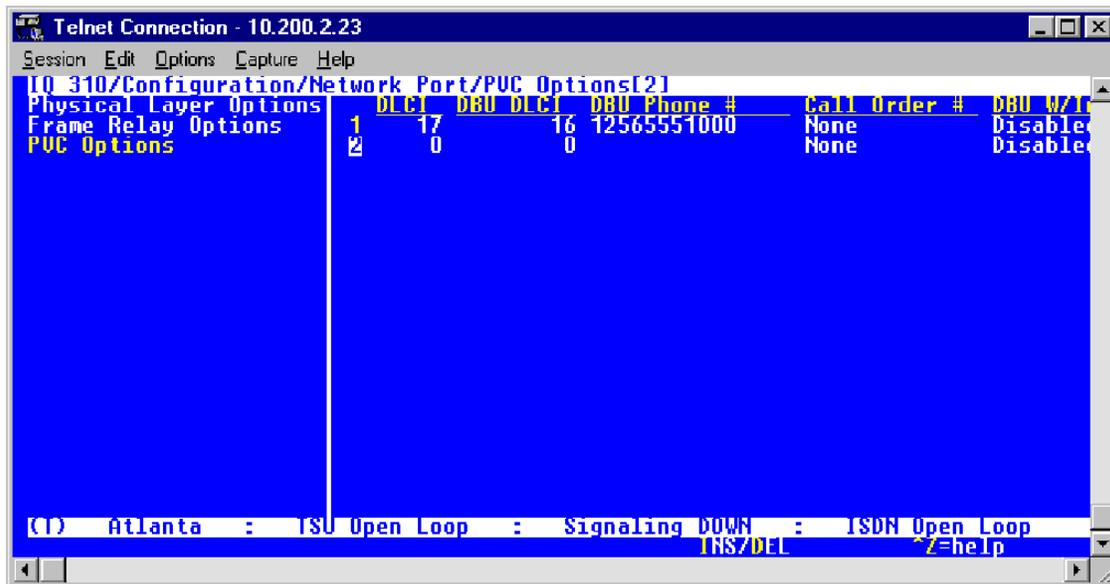

Figure 23. New Entry Screen
- Using the left arrow, place the cursor over the number 1 (indicating entry 1) to the left of the **DLCI** field; then press  for insert. This should add an entry as shown in Figure 23.